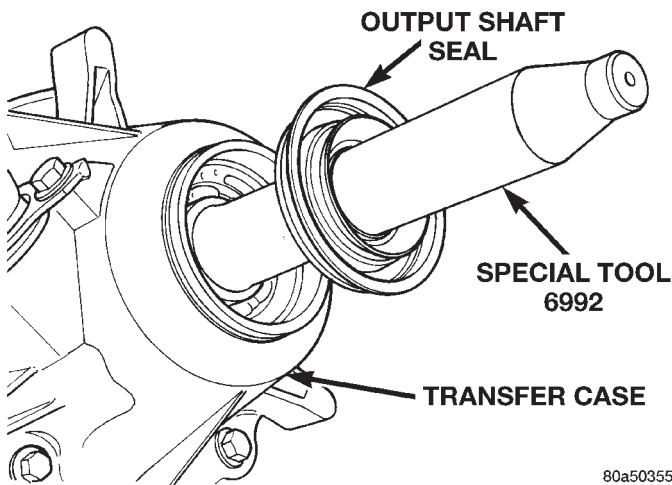

Fig. 89 Output Shaft Seal and Protector
(5) Install rear retainer on rear case. Tighten retainer bolts to 20–27 N·m (15–20 ft. lbs.) torque.
(6) Install rear bearing I.D. retaining ring and spacer on output shaft.
(7) Apply liberal quantity of petroleum jelly to new rear seal and to output shaft. Petroleum jelly is needed to protect seal lips during installation.
(8) Slide seal onto Seal Protector 6992 (Fig. 89). Slide seal protector and seal onto output shaft.